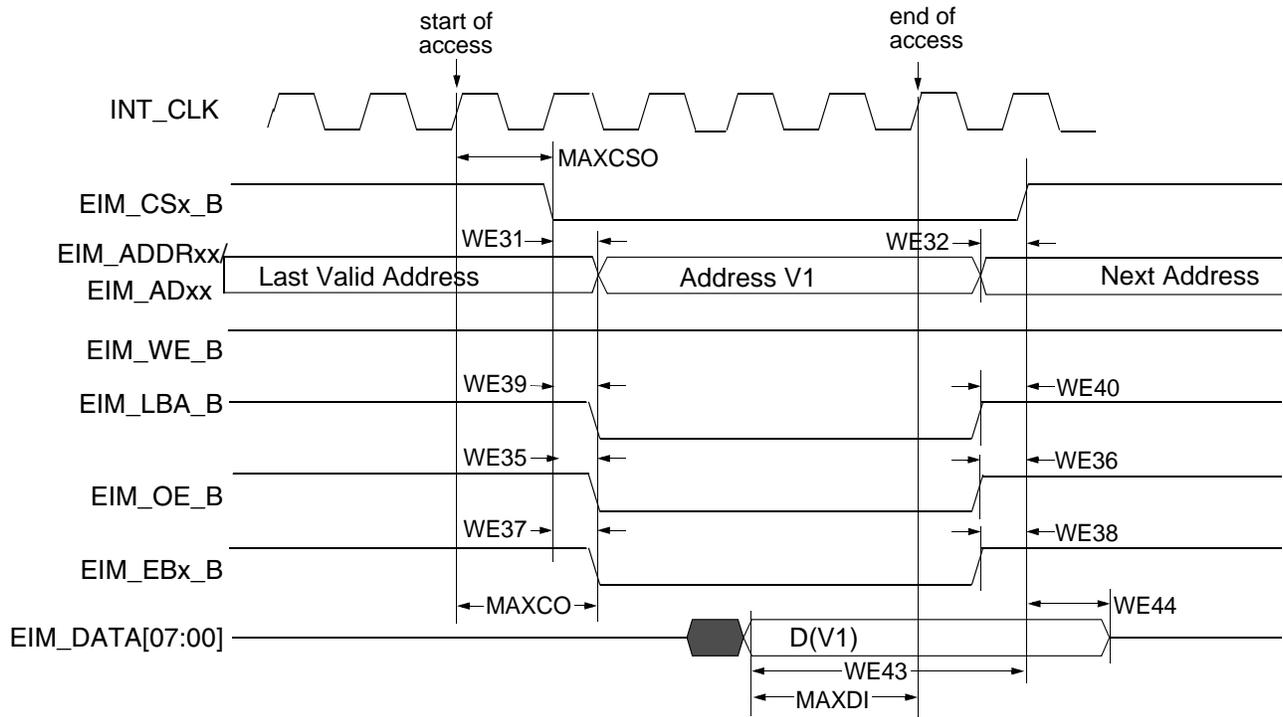

Figure 18. Asynchronous Memory Read Access (RWSC = 5)
Figure 18 through Figure 22 and Table 41 provide timing parameters relative to the chip select (CS) state for asynchronous and DTACK EIM accesses with corresponding EIM bit fields and the timing parameters mentioned above.
Asynchronous read and write access length in cycles may vary from what is shown in Figure 18 through Figure 21 as RWSC, OEN & CSN is configured differently. See the i.MX 6DualPlus/6QuadPlus reference manual (IMX6DQPRM) for the EIM programming model.